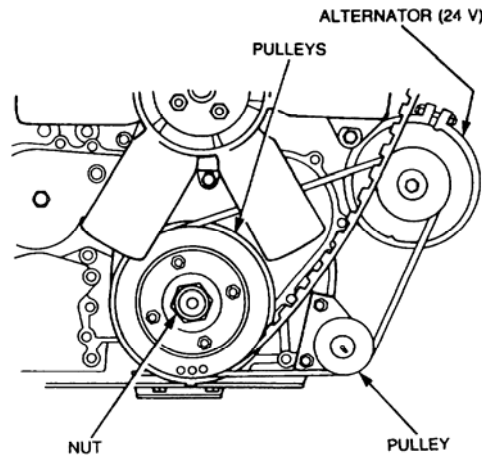

Figure 2 Removal of the Crankshaft Pulley
- e. Ensure that the parking brake is applied, low gear is selected and all the wheels are chocked. Remove the crankshaft front nut and washer (Figure 2) and remove the pulley.